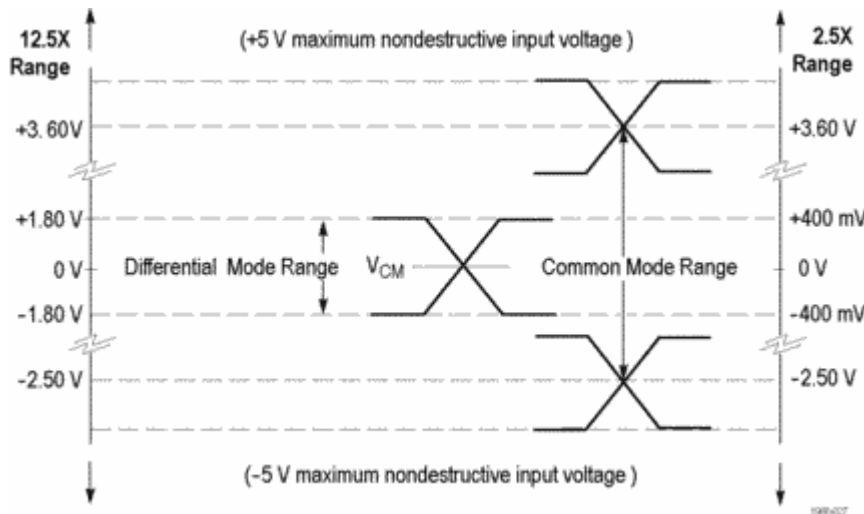

Figure 5: Differential and Common-Mode operating ranges for a complementary differential signal
The  $V_{CM}$  compensation circuit automatically minimizes the DC common-mode voltage at the probe differential amplifier inputs even with varying termination voltage and input signal DC common-mode voltage. This maximizes the differential mode signal input dynamic range. The  $V_{CM}$  compensation circuit allows the DC common-mode input voltage range to be the same for both attenuator settings. (See Figure 5 on page 7.)
**Common-Mode signal range.** The common-mode signal range is the maximum voltage that you can apply to each input, with respect to earth ground, without saturating the input circuitry of the probe. A common-mode voltage that exceeds the common-mode signal range may produce an erroneous output waveform even when the differential-mode specification is met. The common-mode signal range shown in the figure assumes that an allowable termination voltage is used. (See Figure 5.) Refer also to *Overdrive Error* for more detail. (See page 9, *Overdrive Error*.)
**Differential-Mode signal range.** The differential-mode signal range is the maximum voltage difference between the plus and minus inputs that the probe can accept without distorting the signal. The distortion from a voltage that is too large can result in a clipped or otherwise distorted and inaccurate measurement. The differential mode signal range is dependent on the probe attenuator setting as shown. (See Figure 5.) The single-ended signal measurement range is shown later in this section. (See Table 2 on page 15.)